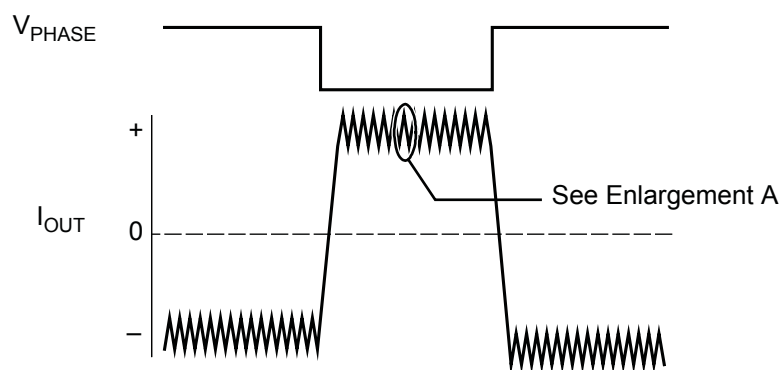

Figure 2. Mixed Decay Mode Operation
**Mixed Decay Operation** The bridges operate in mixed decay mode. Referring to figure 2, as the trip point is reached, the device goes into fast decay mode for 30.1% of the fixed off-time period. After this fast decay portion,  $t_{FD}$ , the device switches to slow decay mode for the remainder of the off-time. During transitions from fast decay to slow decay, the drivers are forced off for approximately 600 ns. This feature is added to prevent shoot-through in the bridge. As shown in figure 2, during this “dead time” portion, synchronous rectification is not active, and the device operates in fast decay and slow decay only.